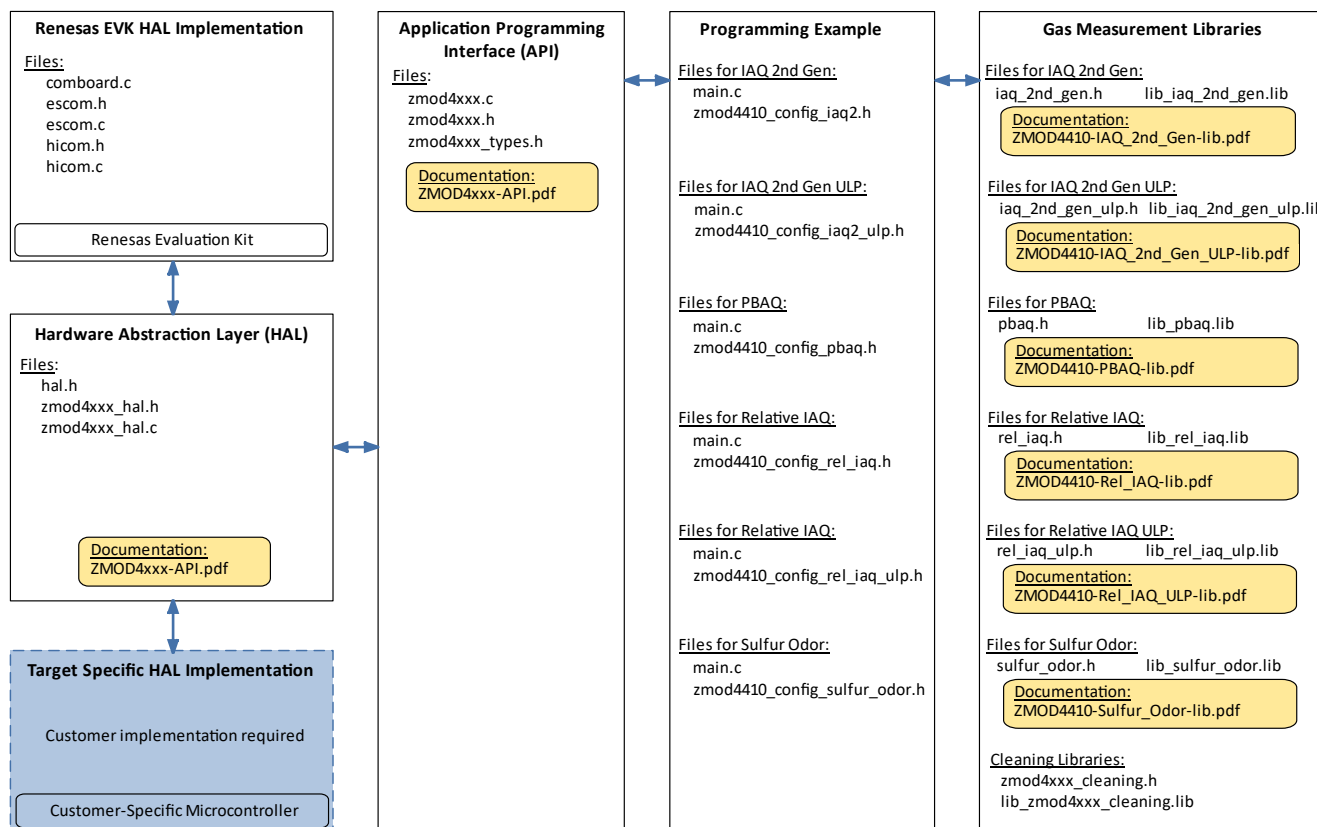

Figure 1. File Overview for ZMOD4410 Firmware
To operate the ZMOD4410 and use its full functionality, five code blocks are required as displayed in Figure 1:
1. The “Target Specific I²C and Low-Level Functions” block is the hardware-specific implementation of the I²C interface. This block contains read and write functions to communicate with the ZMOD4410 and a delay function. If the Renesas EVK is used, files for the EVK HiCom Communication Board are provided with the ZMOD4410 firmware packages. Using the user’s own target hardware requires implementing the user’s target-specific I²C and low-level functions (this is highlighted in light blue in Figure 1).